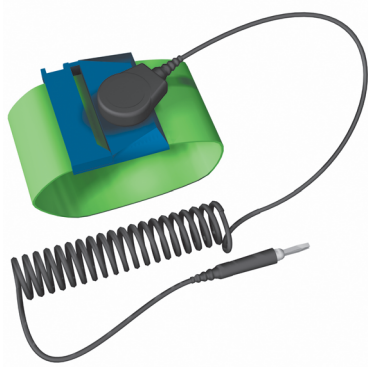

Figure 2. ESD Protection
6. Ensure that the DX4000 DVR and all of its components are protected from electrostatic discharge (ESD). Before handling any electronic components, you should take steps to ground yourself properly so that any built-up static electric charges are dissipated away from the unit. The most effective method for combating ESD is to use a properly grounded wrist strap (refer to Figure 2). These wrist straps are designed to be plugged into specially-designed mats.